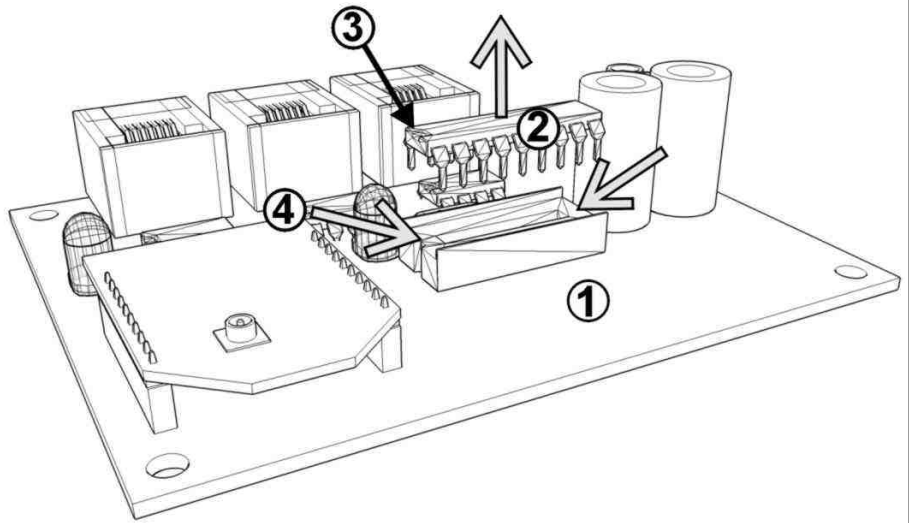

Fig. 6: Replacing the micro controller
2. Identify the micro controller and with a small flathead screwdriver gradually lever it along the shorter edges in order to extract it from its base (Fig. 6).